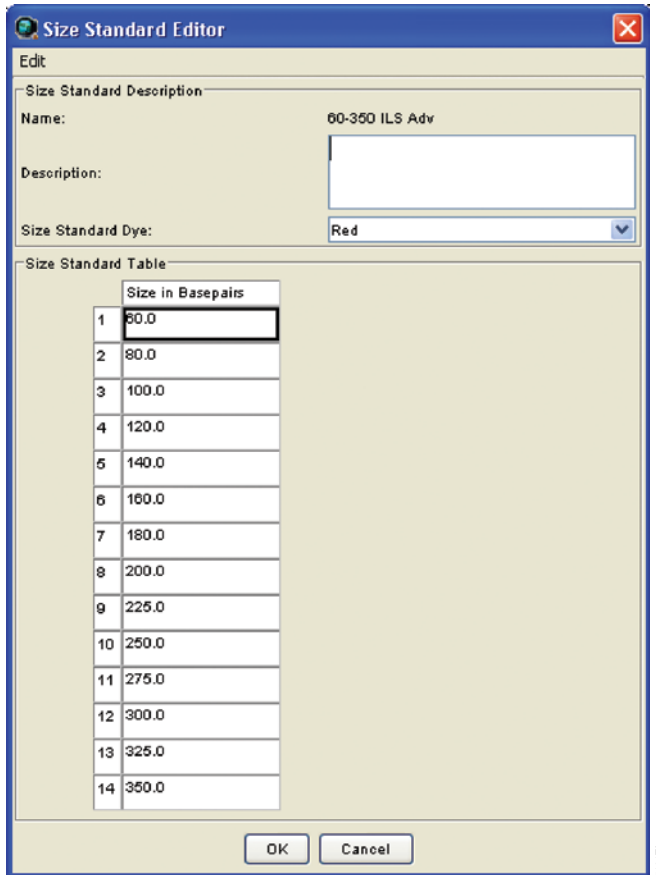

Figure 5. The Size Standard Editor.
5. Enter a detailed name such as “60–350 ILS Adv” in the Size Standard Editor (Figure 5).